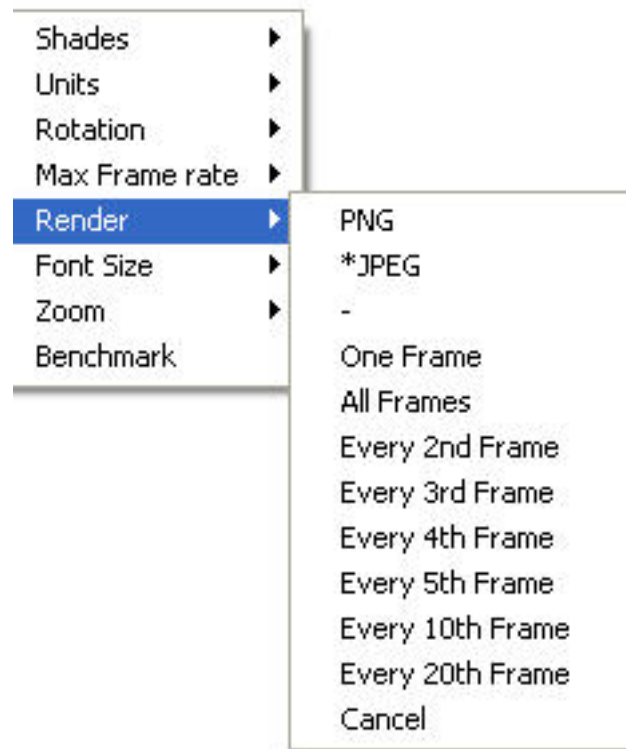

Figure B.7: Render Menu
The **Render** menu, illustrated in Figure B.7, allows one to create PNG or JPEG image files of the currently displayed scene. The graphics library, GD 2.0.15, was used to create the rendered versions. GD 1.0 is documented in reference [10, Appendix 4]. GD 2.0.7 now creates images using *full color* allowing for more realistic scene representations eliminating the color banding that occurred with the previous version because of the limited number (256) of colors used to represent images. Due to patent disputes, GD 2.0.15 has dropped support for the GIF file format and uses JPEG or PNG instead.